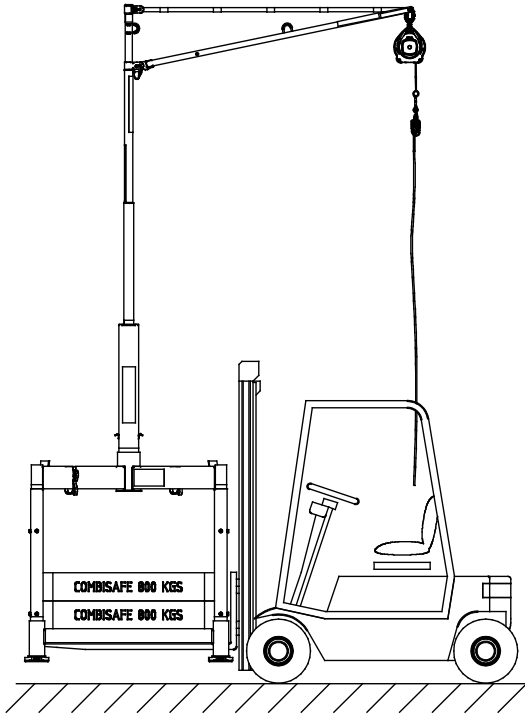

Figure 31. *Lifting the whole unit for transportation.*
1. Use a fork lift truck, place the forks underneath the Base with the forks as wide as possible, see Figure 31. Lift the unit slowly and make sure that no part on the Loading System MkII might be obstructed.